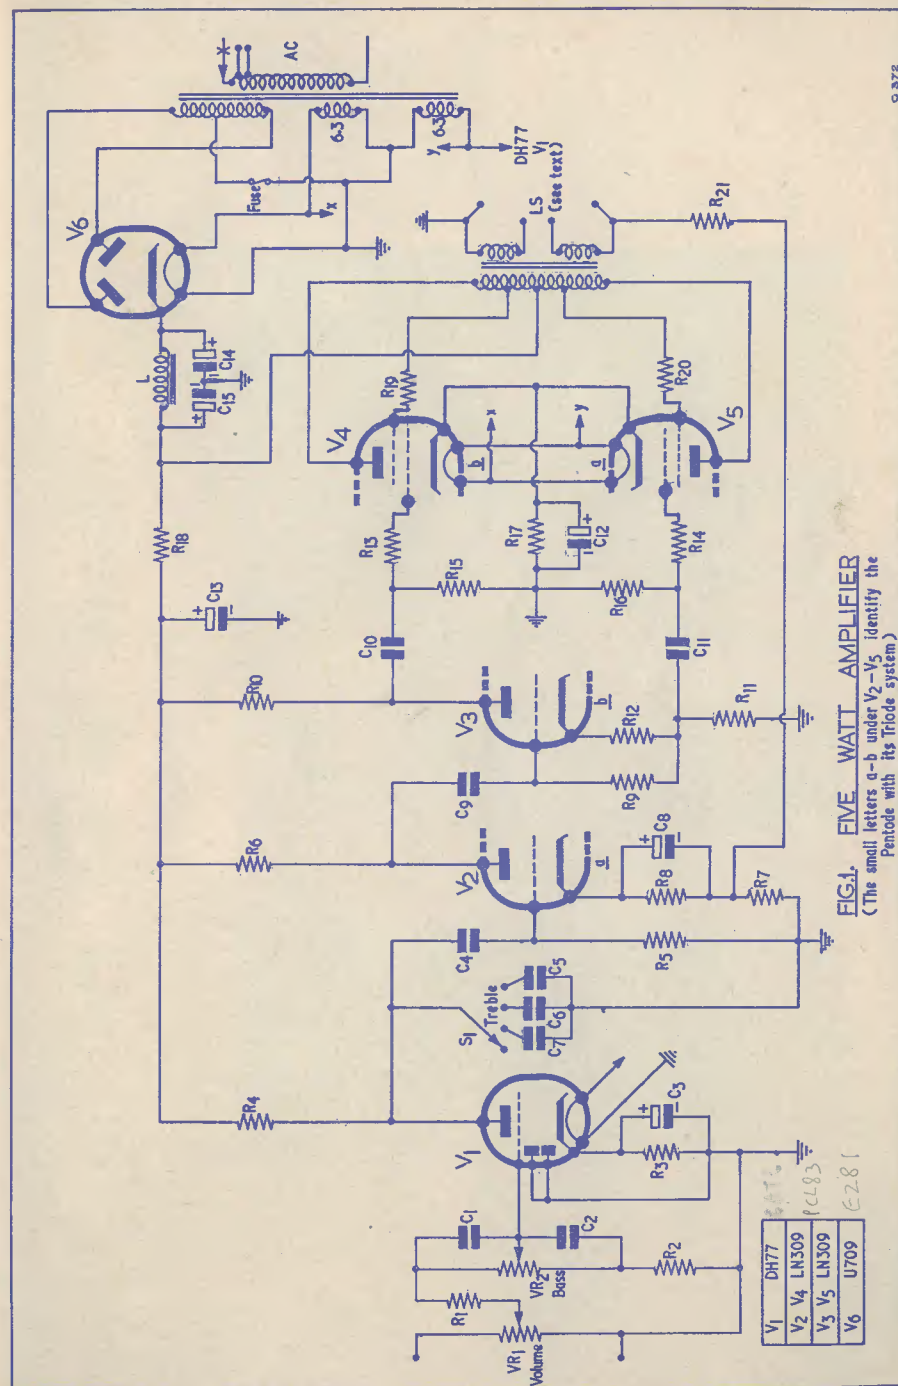

FIG. 1. FIVE WATT AMPLIFIER
The "JUNIOR" amplifier has an output of five watts with less than two per cent distortion, with an anode supply voltage as low as 250 volts so that the smoothing capacitors and mains transformer are low priced. Four valves are used, two of which are triode-pentodes connected in the ultra-linear (UL) circuit, giving five stages of amplification with only three valves, the fourth (U709) being the rectifier. Approximately six db degeneration is applied from the output to the second stage. Before the first valve is a bass control to increase or decrease the lower frequencies, and between the first and second valves a stepped treble control giving four degrees of response to the higher frequencies. These controls are simpler and use fewer components than those employed in the "912," but are capable of giving satisfactory results from LP and from normal 78 records. The full range of control is also available when connection is made to an a.m. or f.m. radio receiver. The circuit is shown in Fig. 1.